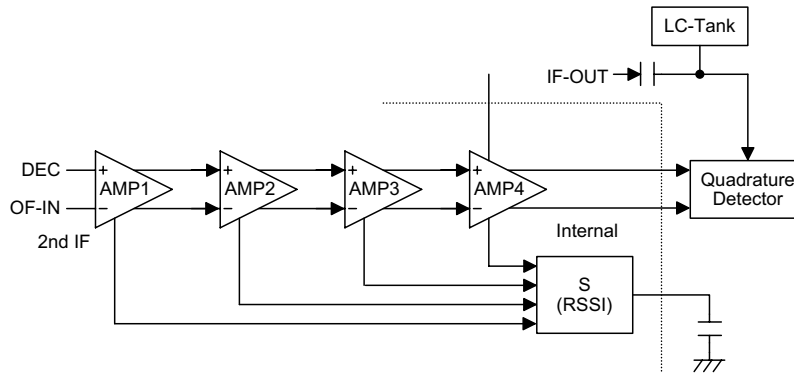

Figure 6 Limiting IF Amplifier, RSSI and RSSI comparator
- The basic function of the IF amp is to boost the IF signal and to help handle impulse noise. The IF limiter applies very high gain to the IF frequency such that the top and bottom of the waveform are clipped. This helps in reducing AM and noise intercepted upon reception. The limiting IF amplifier consists of four differential amplifiers (Figure 6).